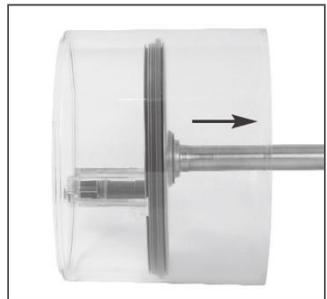

Figure 6
5) Remove the base from the bowl by removing the rubbering (see Figure 5) and tapping the base our in the direction shown (see Figure 6).